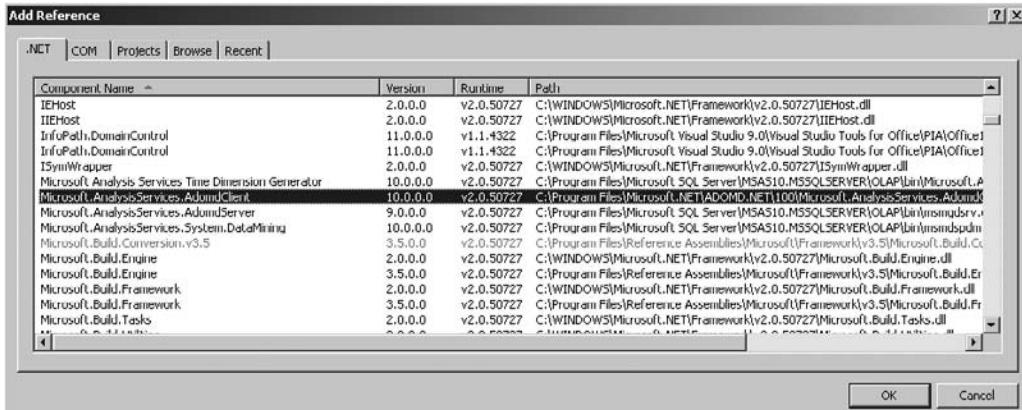

Figure 18-3 The Add Reference dialog box with the entry for the ADOMD.NET client highlighted
2. Scroll down and select the entry for Microsoft.AnalysisServices.AdomdClient, as shown in Figure 18-3.